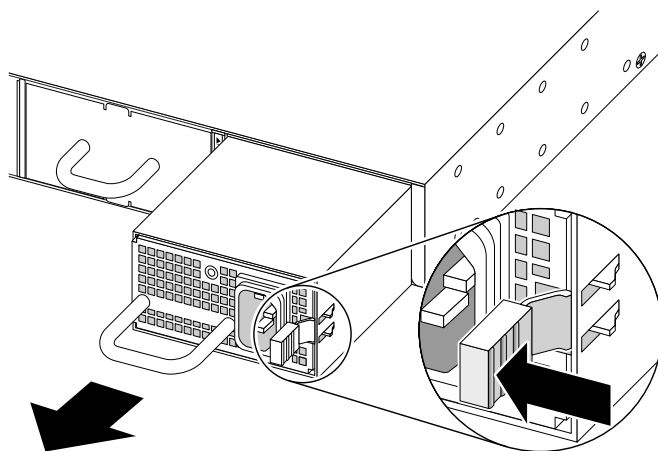

Figure 350: Removing a Summit X650 AC Power Supply
- 3 Push the latching tab toward the power supply handle and pull outward on the handle to disengage the power supply internal connectors (see Figure 350: Removing a Summit X650 AC Power Supply on page 369).